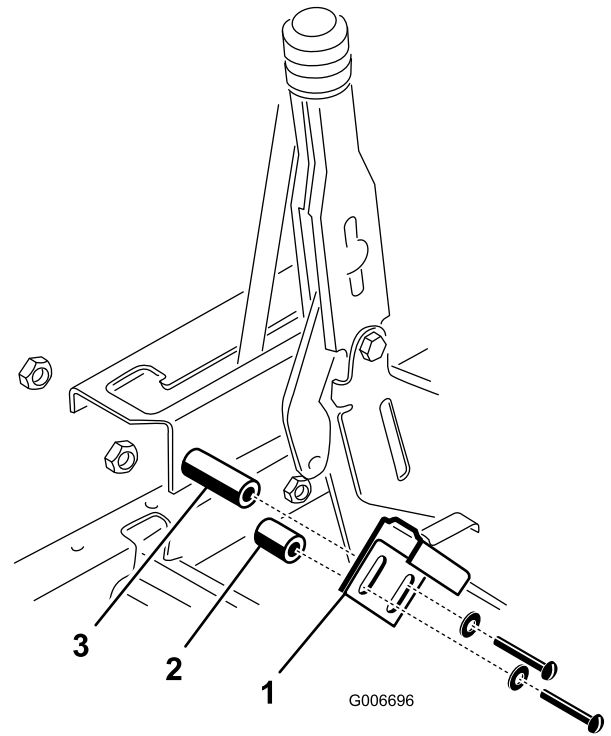

Figure 8
15. Loosely mount parking brake switch to vehicle console with (2) spacers, #10-24 screws, washers and nuts, as shown in Figure 8. Different length spacers and screws are used to mount switch level.